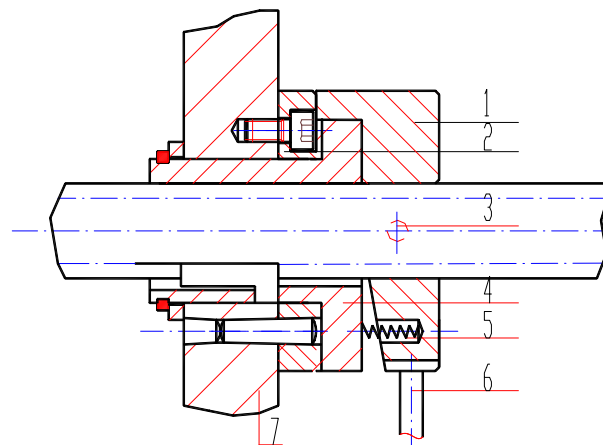

Fig. 31 Protecting mechanism of spindle starting
positioning plate (2) and is locked without free moving. When you want to start the spindle, it is necessary first to pull the handle (6) toward to inside to compress the spring (5) to make the lug away from the groove on the positioning block (2). In this case, you can shift up or down the handle (6) to make the spindle starting. Owing to the fact that operator's body is close to the handle only outside, thus, the handle (6) cannot make mistaking action (see Fig. 31)